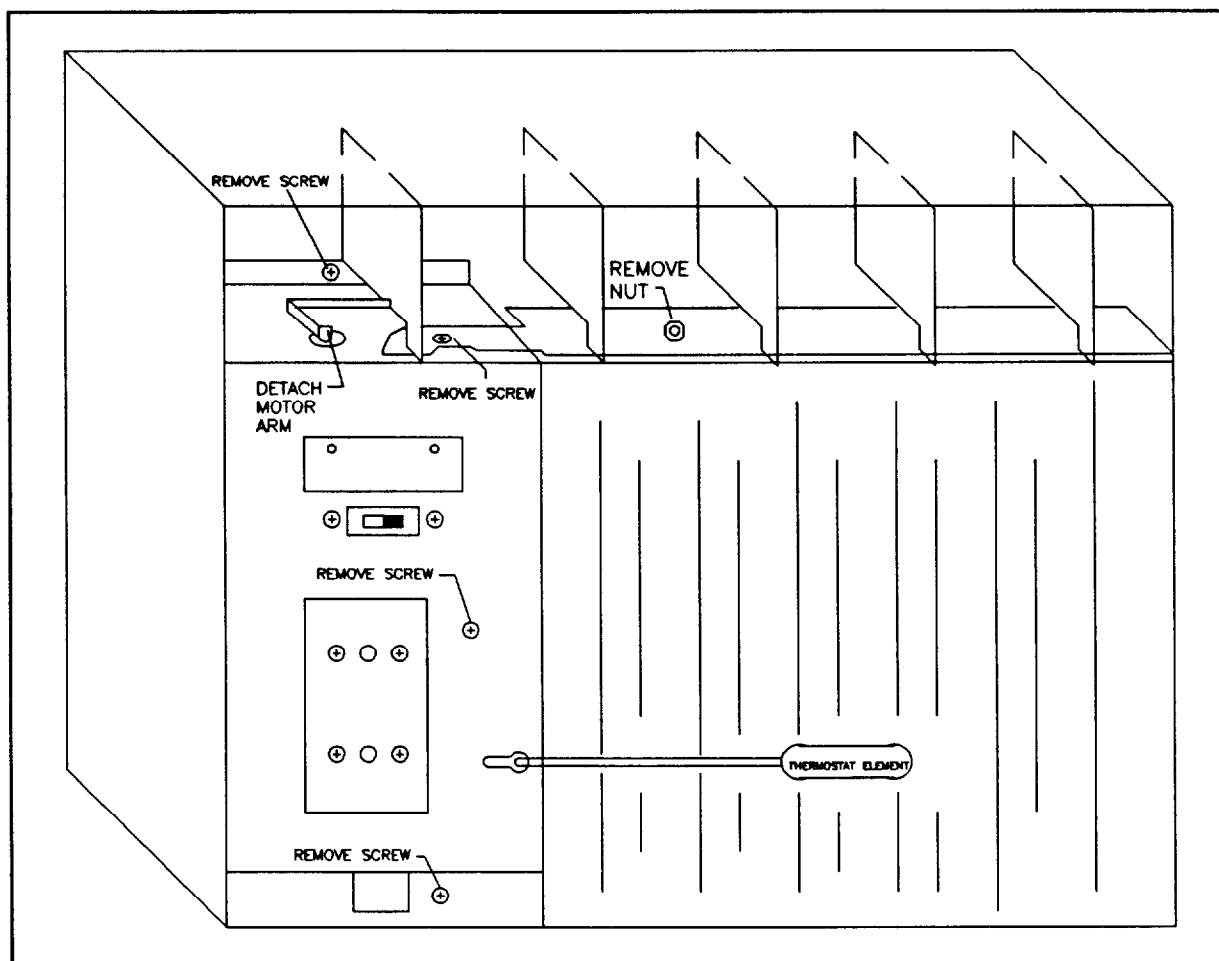

Figure 1 Air Conditioner with front cover and filter removed
6. Remove the four screws shown in figure 1.
7. Remove the air sweep louver nut shown in figure 1.
8. Disconnect the air sweep plastic arm connected to fan motor. See figure 1.